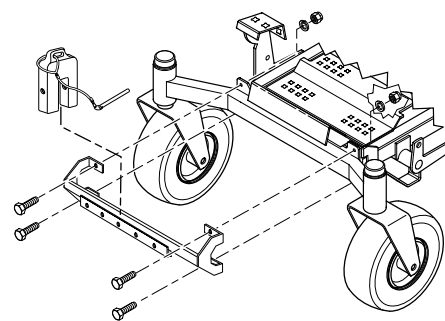

FIGURE 3-6
14. Using the weight support bar as a guide, identify the four corresponding mounting holes, and the existing hardware that will need to be removed in order to secure the weight support bar to the front of the machine as shown. See Figure 3-6.
15. Install one 7/16-14 x 1-3/4" hex head bolt into each of the four mounting holes in the weight support bar, and through the matching holes in the caster support weldment. Secure this assembly to the front of the machine using the 7/16- .5" x 1-1/4" x .083" flatwashers, and the 7/16-14 elastic stop nuts. Torque hardware to 59 ft. lbs. See Figure 3-6.